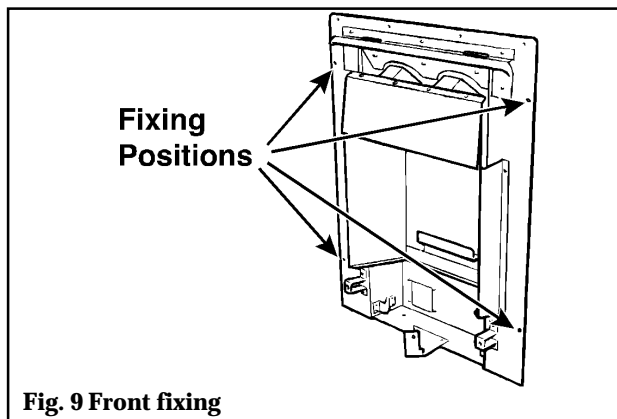

Fig. 9 Front fixing
7.1.2 Mark the fireplace front surround through the four fixing holes in the side flanges of the convection box (see figure 9).